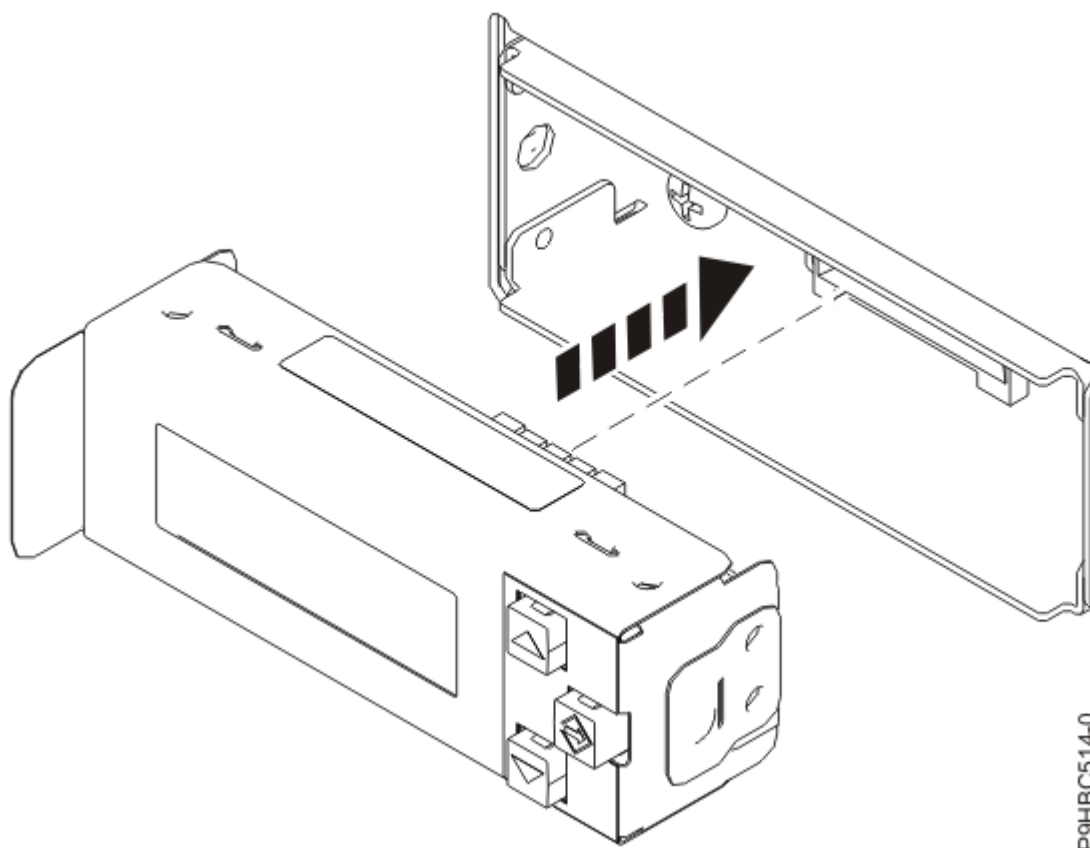

Figure 61. Inserting the control panel display
4. Insert the control panel display by pushing it into the housing as shown in Figure 61 on page 66. It clicks into place.